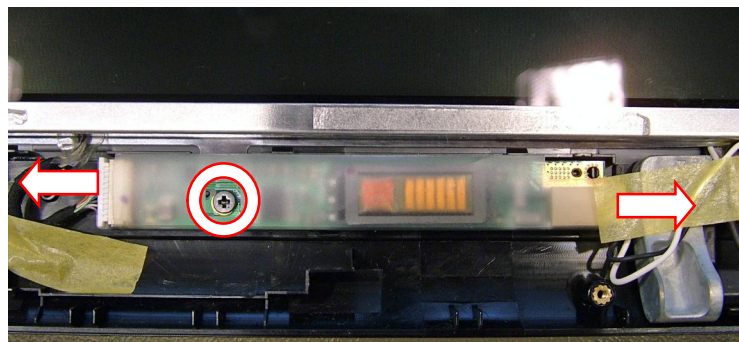

Fig. 43 Location of inverter board.
2. Remove the screw securing the inverter board (see Fig. 43 on page 26).